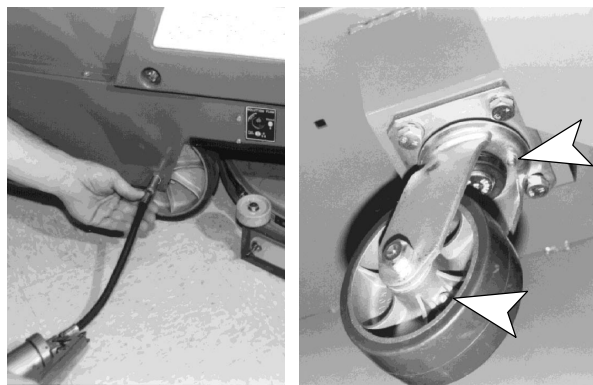

FIG. 23
2. Grease main wheel bearings and swivel and wheel on the caster (Figure 23).